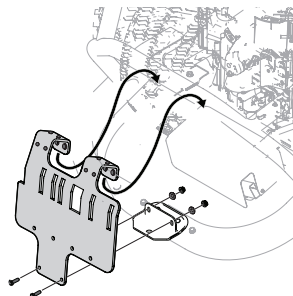

Figure 5
4. Hang adapter bracket assembly onto upper frame tube and connect to hitch bracket adapter with two screws (710-0376), two cup washers (736-0242) and two flange lock nuts (712-04063). See Figure 5.